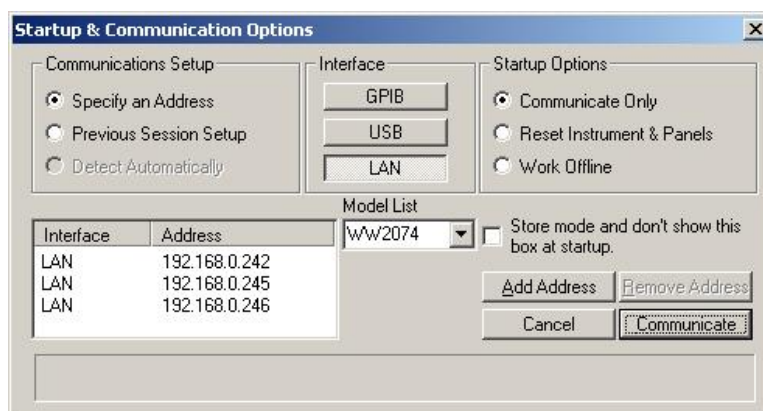

Figure 4-25, Assigning Master and Slave Addresses
6. Select the LAN Interface and add the master and slave addresses as shown in Figure 4-25.